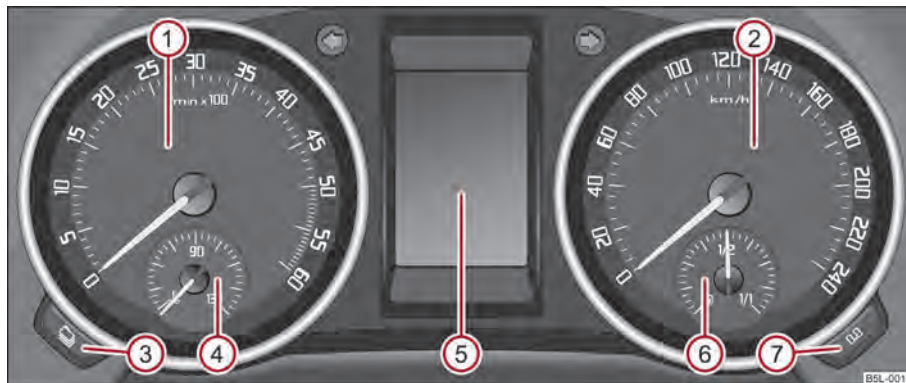

Fig. 2 Instrument cluster
The red zone of the rev counter scale ① ⇒ fig. 2 indicates the range in which the engine control unit begins to limit the engine speed. The engine control unit restricts the engine speed to a steady limit value.
The coolant temperature gauge ④ ⇒ fig. 2 operates only when the ignition is switched on.
The fuel gauge ⑥ ⇒ fig. 2 only operates when the ignition is switched on.
If you hold the reset button  => fig. 2 pressed for about 1 second, the trip counter is set back to zero.
You can use the button  to display the remaining distance driven and the days until the next service interval \Rightarrow fig. 2.
Reset the service interval displays by using the reset button  \Rightarrow fig. 2 on the trip counter.